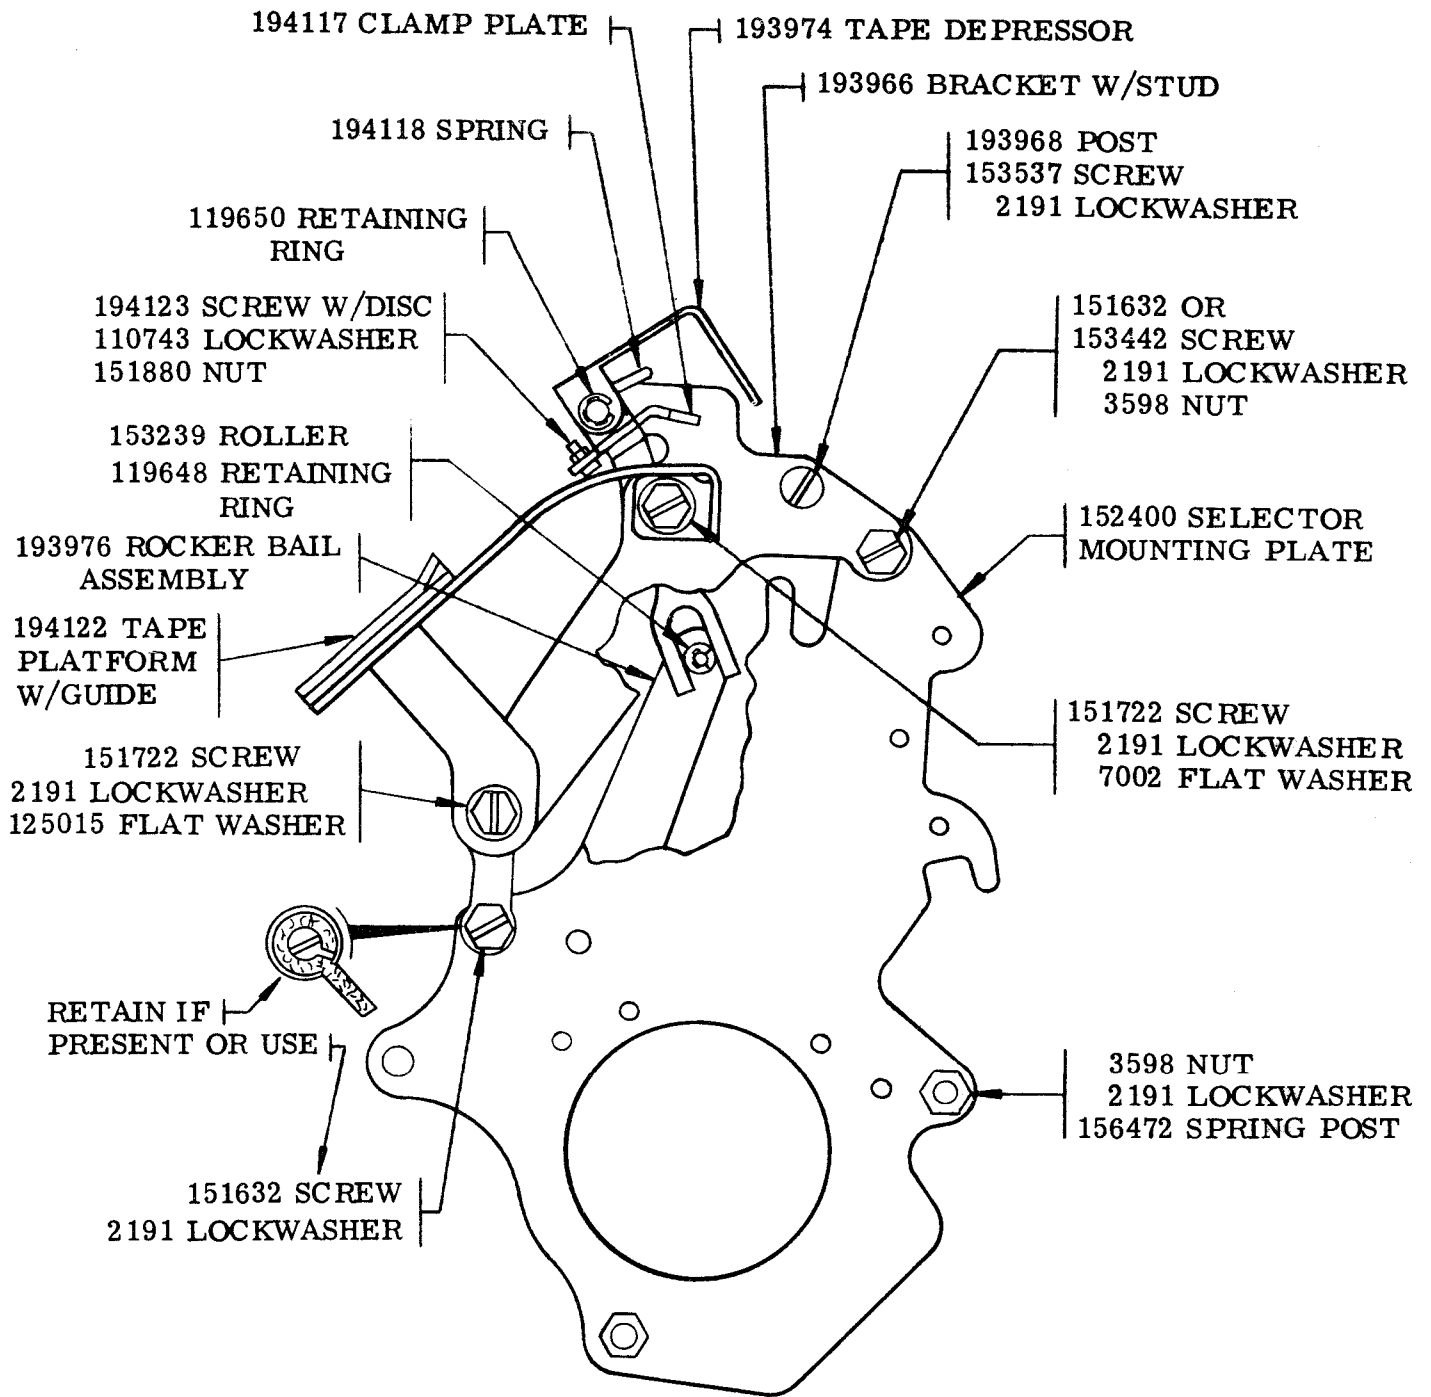

FIGURE 1
a. If the unit being modified is a Model 28 or 35 Perforator or a Model 28 Reperforator, remove the 158941 rocker bail assembly and install a 193976 rocker bail assembly reusing all the old bail mounting hardware. See Figure 1.
(1) Place the 153239 roller over the stud on the rocker bail, and lock it to the stud with a 119648 retaining ring.